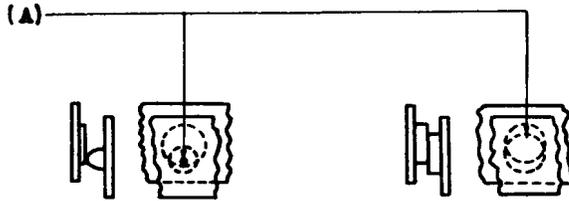

Fig. 4
2.05 Contact Alignment - Fig. 4 (A) - The contacts shall line up so that the point of contact falls wholly within the boundary of the opposing contact, except for opposing contacts having the same diameter in which case their centers shall not be out of alignment more than 25% of the diameter of the contacts. Gauge by eye.